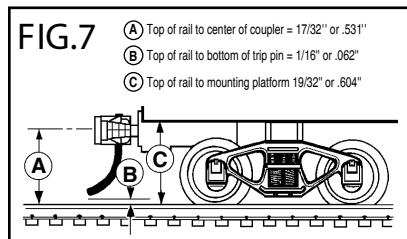

FIG. 7
1. To permit standardization of your rolling stock and interchange of equipment on different model railroads - we recommend mounting couplers at N.M.R.A. standard height, which is .531" or 17/32" from top of rail to centerline of coupler, see Fig. 7.
too high - use a shim of correct thickness to lower coupler to N.M.R.A. height in between coupler and car mounting surface, see Fig. 7 and 8.